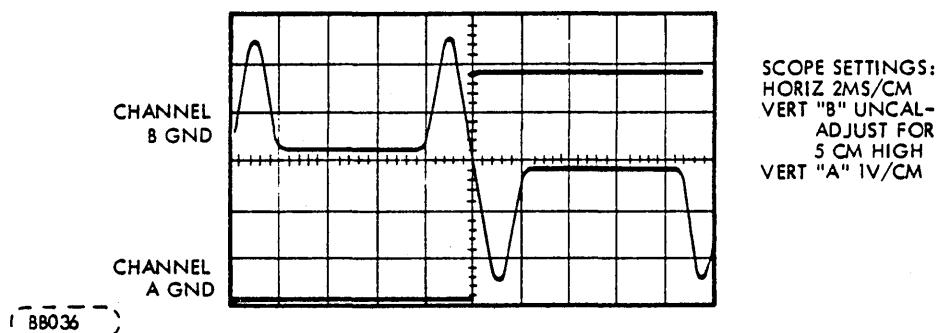
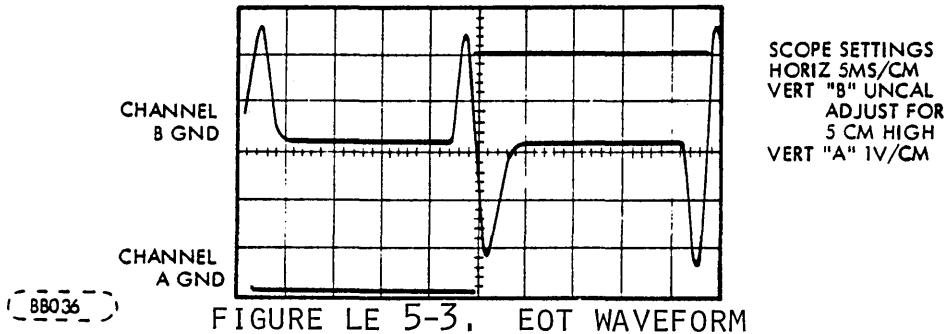

FIGURE LE 5-2. EOT WAVEFORM
FIGURE LE 5-3. EOT WAVEFORM
Horizontal sweep time of Figure LE 5-2 and Figure LE 5-3 depends upon switch settings on the I/O board.
14. Adjust oscilloscope until waveform looks similar to Figure LE 5-2 or LE 5-3. Place crossover of signals A and B in middle of screen and place horizontal sweep time to 10X. Waveform should be similar to Figure LE 5-4 depending on sweep time.